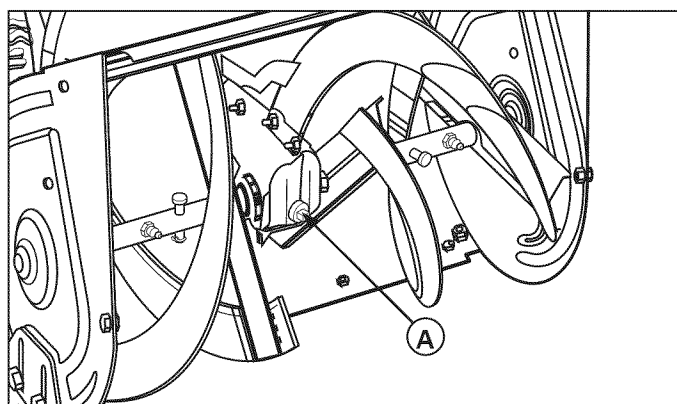

Figure 27. Auger Lubrication
2. Remove the pipe plug (A, Figure 27).